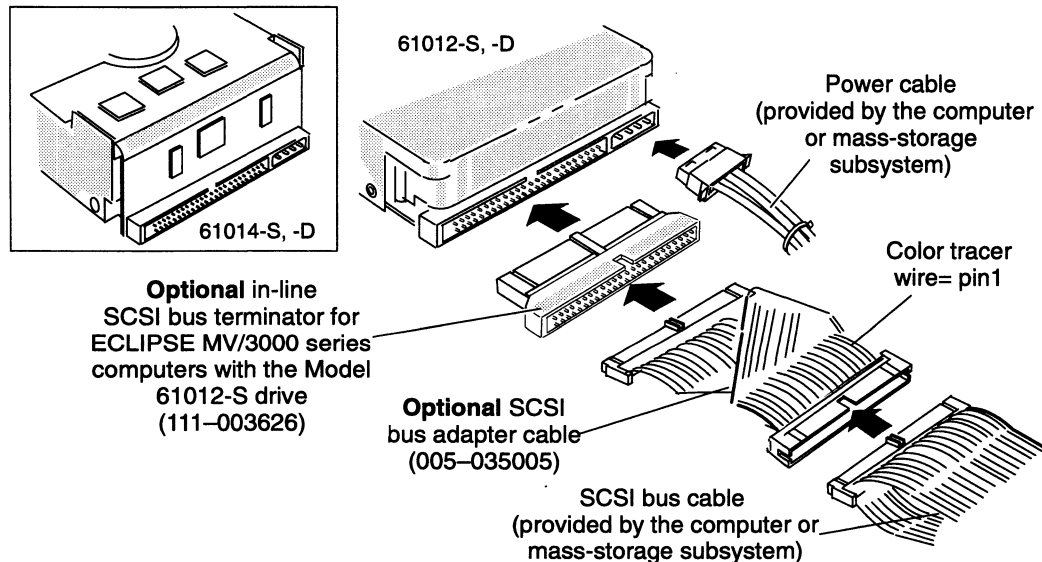

Figure 19 Connecting the SCSI bus cable and power cable to the back of the Model 61012-S, -D or 61014-S, -D drives (Version B)
- ▶ If you are installing the drive in an ECLIPSE MV/3000 series computer and the drive will be disk 0, connect the in-line terminator plug, 111-003626 (Figure 19) into the SCSI bus connector on the drive. (Note the ECLIPSE MV/3000 Series computers do not support the Model 61014-S drive.)
- ▶ Connect the SCSI bus cable provided by the computer or mass-storage subsystem into the SCSI bus connector (or optional in-line terminator plug) on the back of the disk drive (Figure 19).
9. If you cannot connect the SCSI bus cable to the drive without twisting it, connect an optional adapter cable (005-035005) between the SCSI bus cable and the disk drive (Figure 19).
- ▶ If you are installing a drive model with a -S or -D suffix, refer to Figure 19.